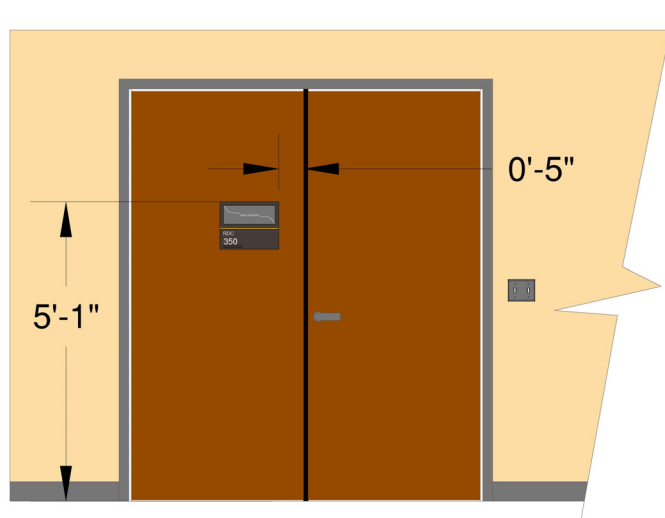

Figure 30.8
30.8. Identification sign installation, for double doors without glass and only one active leaf, shall comply with figure 30.8.